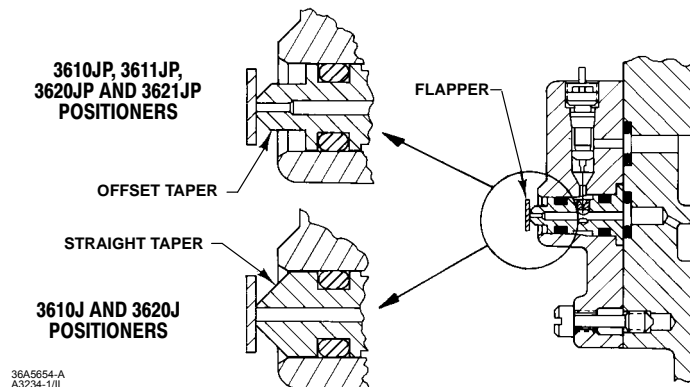

Figure 7. Nozzle Block Assembly
All 3610J and 3620J Series positioners have the same basic construction. For 3611JP or 3621JP, a parallel flexure (key 179, figure 13) is added (not required on 585 size 100 actuator). When changing positioner types, other parts may require changing, such as the nozzle assembly (key 116, figure 25), the feedback lever assembly (key 117 or 170, figure 29), and the range spring (key 150, figure 25). Refer to the Parts List for part number identification. Changing parts may require partial disassembly and reassembly as described in the Maintenance section. Figure 7 illustrates the slight difference in nozzle assemblies between the single-acting (3610J and 3620J) and double-acting (3610JP, 3620JP, 3611JP and 3621JP) positioners. See the Changing Positioner Types procedure in the Maintenance section for additional information.